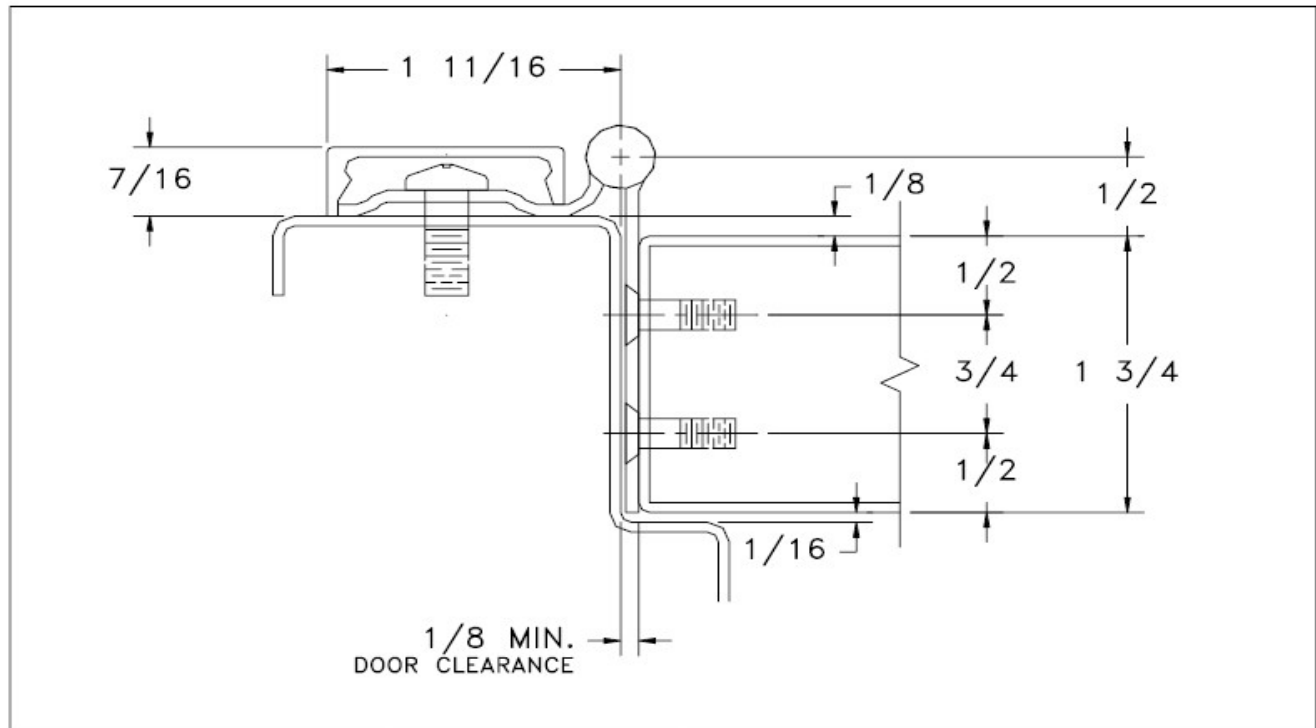

Figure 1: Hinge Placement & Clearance Template
**Do not** install Snap-On cover until installation is 100% complete, and all aspects of the assembly are correctly fastened and properly fitted. The Universal Screw Pack contains sheet metal, machine, and self-drilling Tek screws. This allows three different installation options. If mounting a wooden or unreinforced door, follow option (A) in the instructions. Follow option (B) if the door is reinforced or at least 1/8" thick. If you use the self-drilling Tek screws (recommended for grout-filled frames), follow option (C).
- Perform each step of these instructions unless specifically labeled (A), (B), or (C).
- (1) Place hinge on the edge of the door as shown in Figure 1 on the other side of these instructions. Carefully line up the hinge with the top and back edges of the door.
- (2) Mark all the hole locations on the door with the hinge held firmly in place.
- (3) Center punch each hole. The use of the Markar MT-806 center punch can help center the hole that the fasteners will enter straight. The taper on the tool sits in the countersunk hole on the hinge.
- (4) (A)&(B) Drill all the holes using a #25 bit.
- (5) (A) Attach the hinge to the door with #10 x 1 1/4" flat head undercut sheet metal screws.